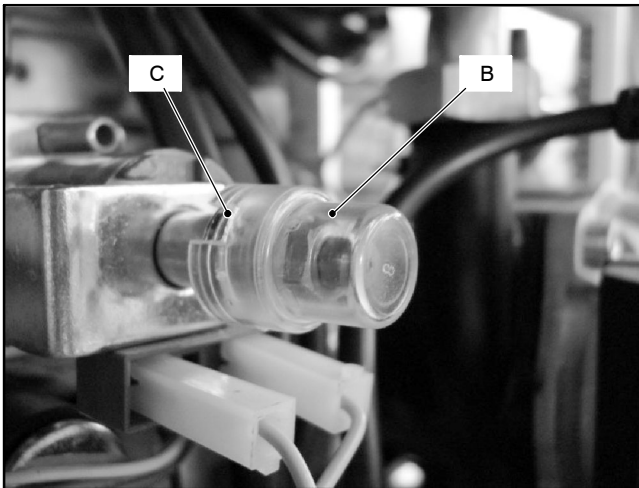

Fig. 55
- 5 Remove the protection cap *B* (Fig. 55) from the mechanical pressure adjustment components levering with a flat screwdriver in the slots *C*.